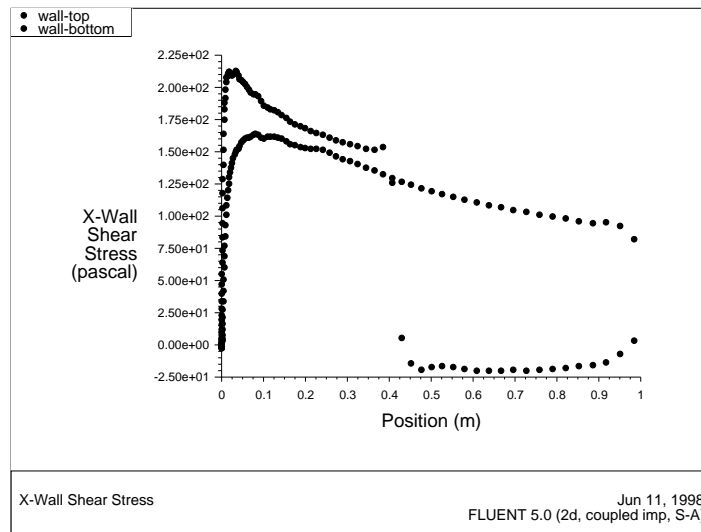

Figure 2.15: XY Plot of x Wall Shear Stress
- Plot the x component of wall shear stress on the airfoil surface (Figure 2.15).